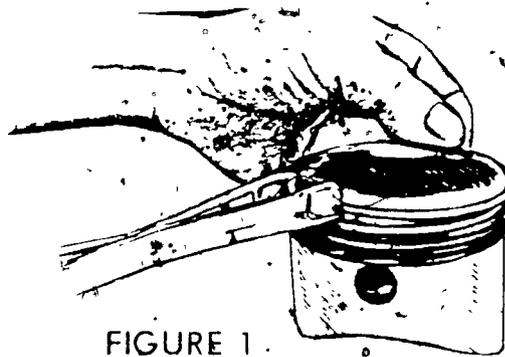

FIGURE 1
- C. Remove rings using ring expander (Figure 1)